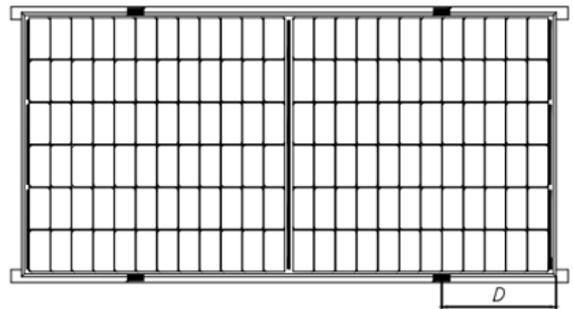

Fig.3 Rails overlapping the long-side frame
When double-sided PV modules are installed, each PV module must be fixed with at least 4 presses, as shown in Figures 3、4、5、6.
- ⑧ For the mounting shown in Figure 3, the overlap between the C surface of the assembly and the rail should be $\geq 25\text{mm}$. Astronergy's limited warranty will be void if improper clamps or improper installation is used.